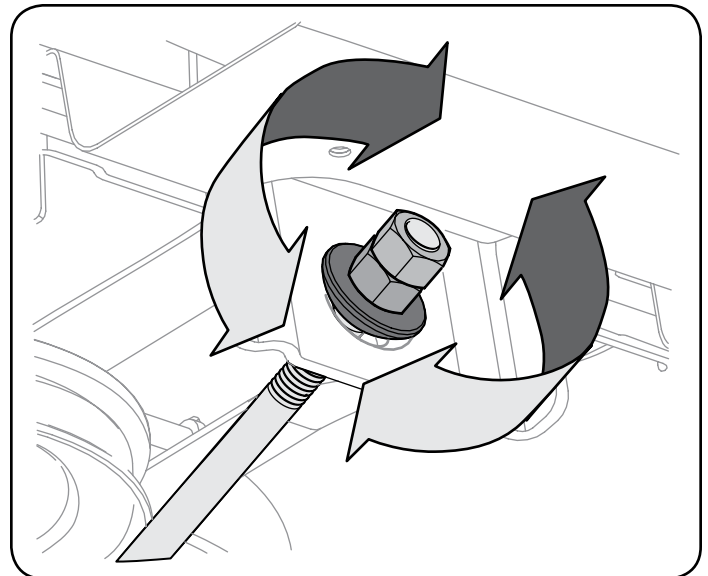

Figure 23
4. To raise the front of the deck, loosen the outer nut then tighten (thread inward) the nut against the front hanger bracket. See Figure 23. When proper adjustment is achieved, re-tighten the outer nut to 25-30 ft.-lbs.
5. To lower the front of the deck, loosen the outer nut then loosen (thread outward) the nut, away from the front hanger bracket. See Figure 23. When proper adjustment is achieved, re-tighten the outer nut.